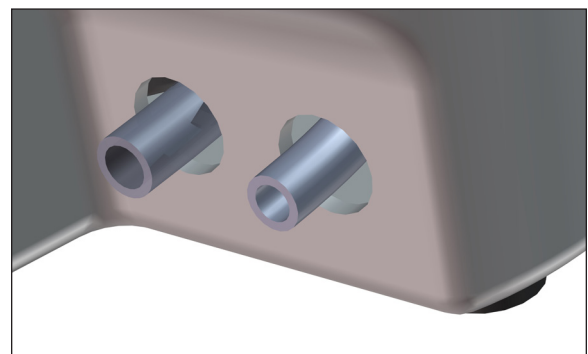

Figure 83 - Step 6 Extend tubing through enclosure
6. Extend the two lengths of tubing through the appropriate openings in the base enclosure (Figure 83).